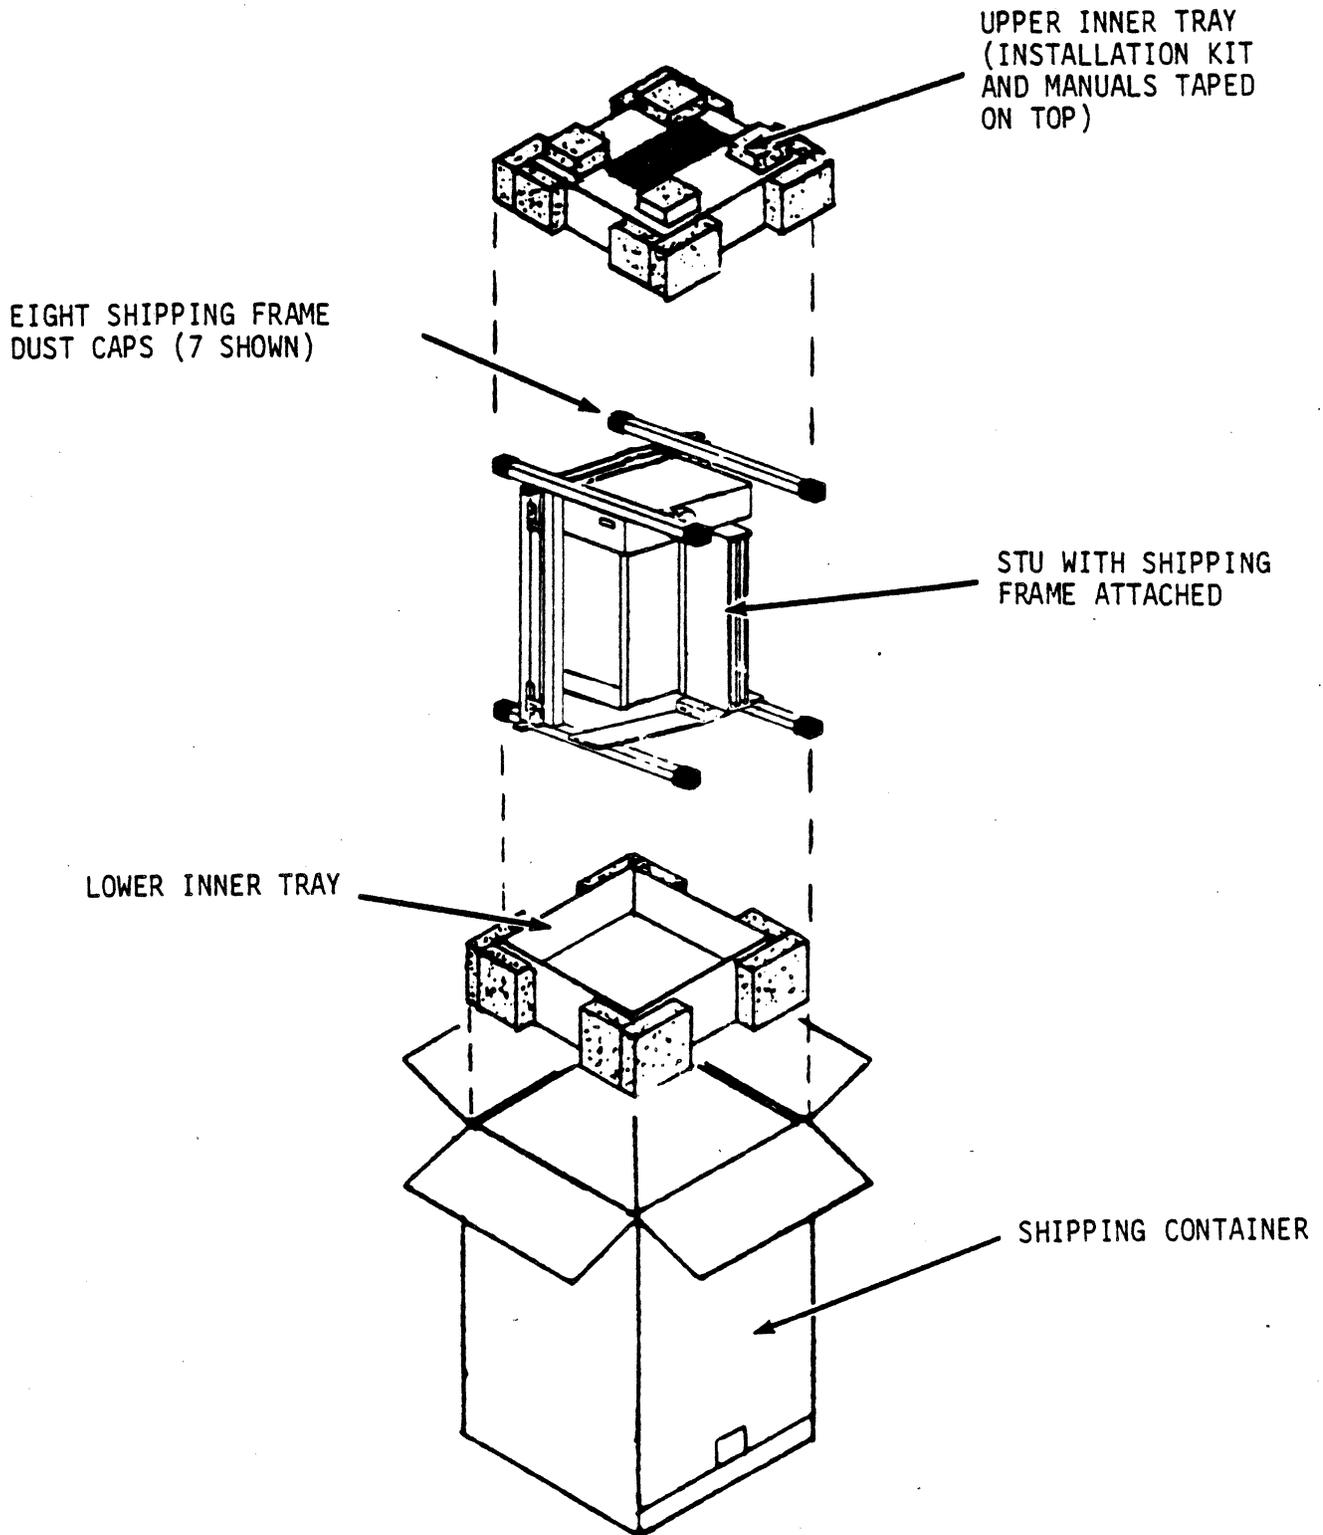

Figure 3-10. STU Packaging
Each STU is packed in a 500-pound tested, double-wall corrugated container, 23 inches by 24-1/2 inches by 31-1/2 inches high, with inner protective packaging as shown in figure 3-10. Unpack the STU in the area or room where it will be installed. Because of the weight of the packaged STU (approximately 132 pounds), unpacking requires two people. Perform the unpacking as follows:
2. Remove STU and all protective packaging as follows: (See figure 3-10)